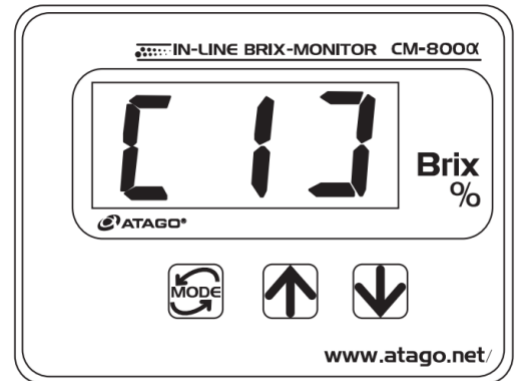

Fig.12-1
- ④ Press the  for one second. After [0] is displayed, press the  key once to display [1] (Fig.12-1).
⑥ Pressing the  sets the adjustment and the display returns to [1] (Fig.12-1).
⑦ Each time the  is pressed, the menu item displayed switches in the order of: [2], [3], [4], [5], and Brix (%).